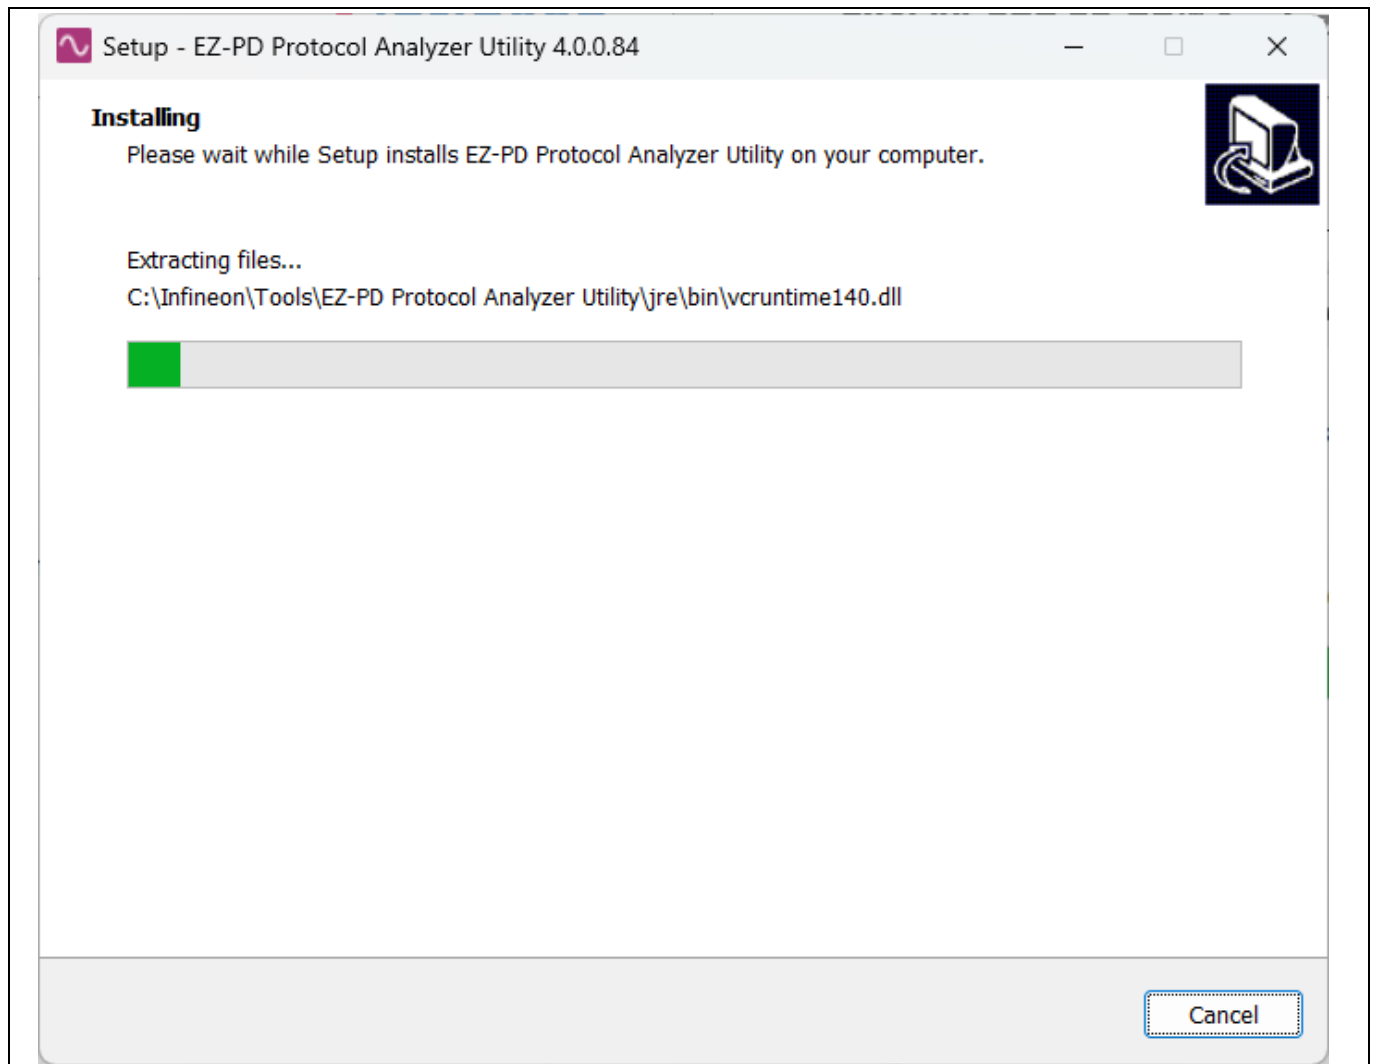

Figure 8 Install the software – Installation in progress
4. Figure 8 shows the installation progress.